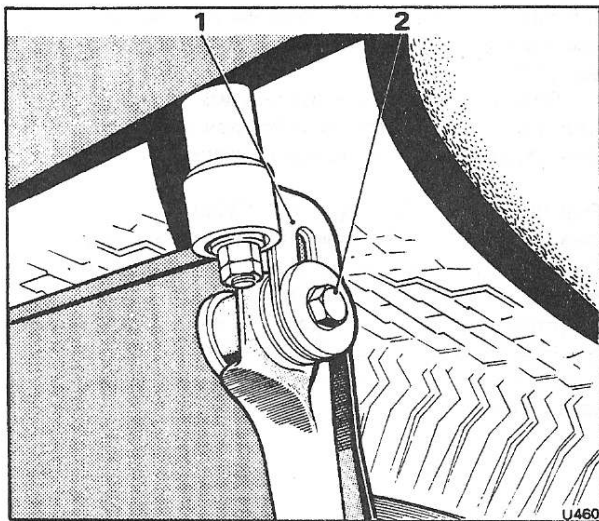

Fig. S128 Spare wheel carrier adjustment point
5. After fitting the spare wheel to the carrier, tighten the lowering bolt and check that the spare wheel is held firmly in position. If any slackness is present, adjust as follows (see Fig. S128).